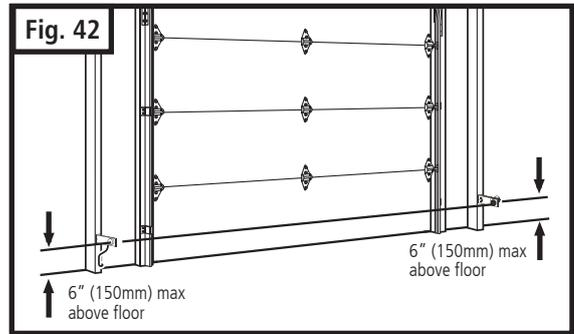

Fig. 43 Clear Path between Photo Eye Sensors
- When the photo eye system is connected to the operator and the power is on, the green light on the transmitter sensor flashes, if the sensors are not aligned. When the sensors are aligned, the green light on the transmitter sensor will turn steady. See Fig. 43.